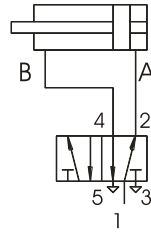

fig 5
### Compressed air connection, fig 5, 6
1. Remove threaded stopper M5 (1) on cylinder (2) and refit on parallel connection.
3. Connect pneumatic hoses as per diagram; fig 5.